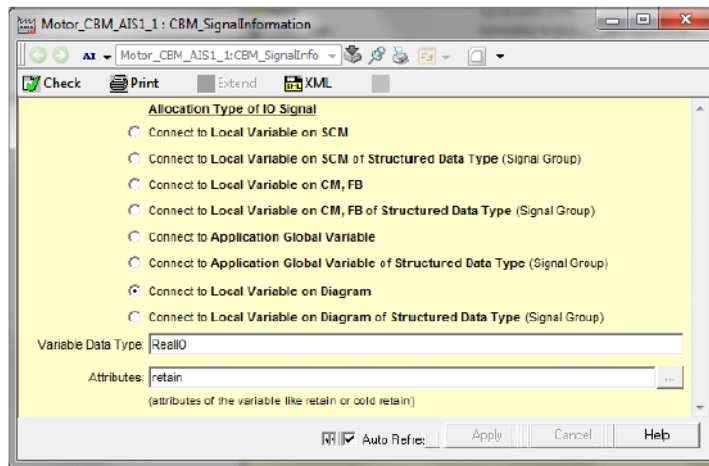

Figure 324. Signal Information
4. Add a CBM_SignalInformation aspect and configure Allocation Type of IO Signal = Connect to Local Variable on Diagram of Structured Data Type, Variable Data Type = IO_SAgitator, Attributes= retain as shown in Figure 324.